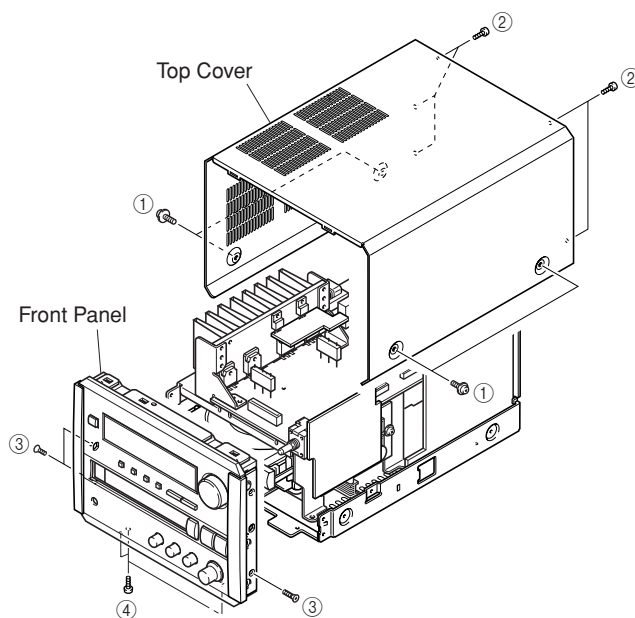

Fig. 1
- Remove 4 screws (①) and 5 screws (②) in Fig. 1.
- Remove 3 screws (③) and 3 screws (④) in Fig. 1.
- Remove the Front Panel Unit forward in Fig. 1.